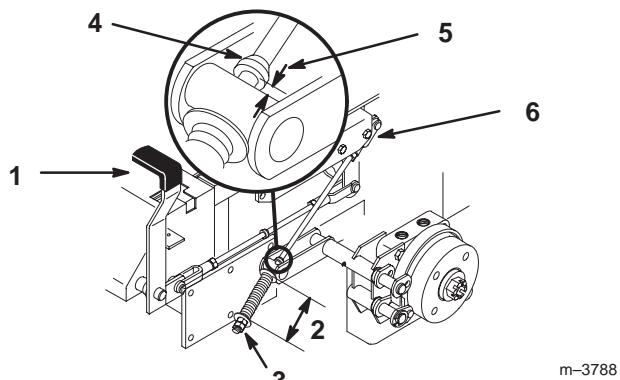

Figure 61
2. Measure the length of the spring. Measurement should be 2-3/4 inch (70 mm) between washers (Fig. 61).
3. If adjustment is necessary, loosen the jam nut below the spring and tighten the nut directly below the yoke (Fig. 61). Turn the nut until the correct measurement is obtained. Tighten the two nuts together and repeat on opposite side of unit.
- A. Measure the distance between the trunnion roller and the collar on brake rod. The measurement should be 3/16-1/4 inch (5-7 mm) (Fig. 61).
- If adjustment is necessary, loosen the jam nut directly below the yoke. Turn the bottom rod until the correct measurement is obtained (Fig. 61). Tighten jam nut at yoke